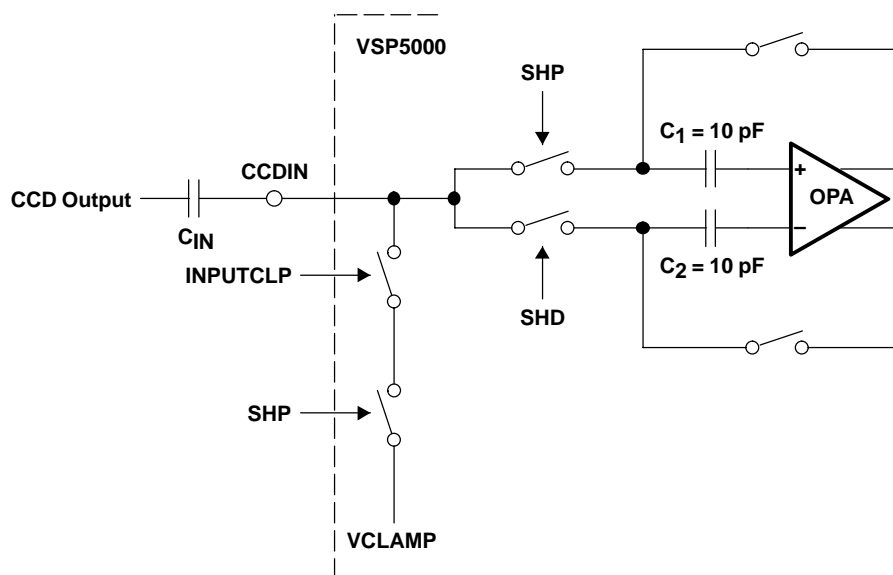
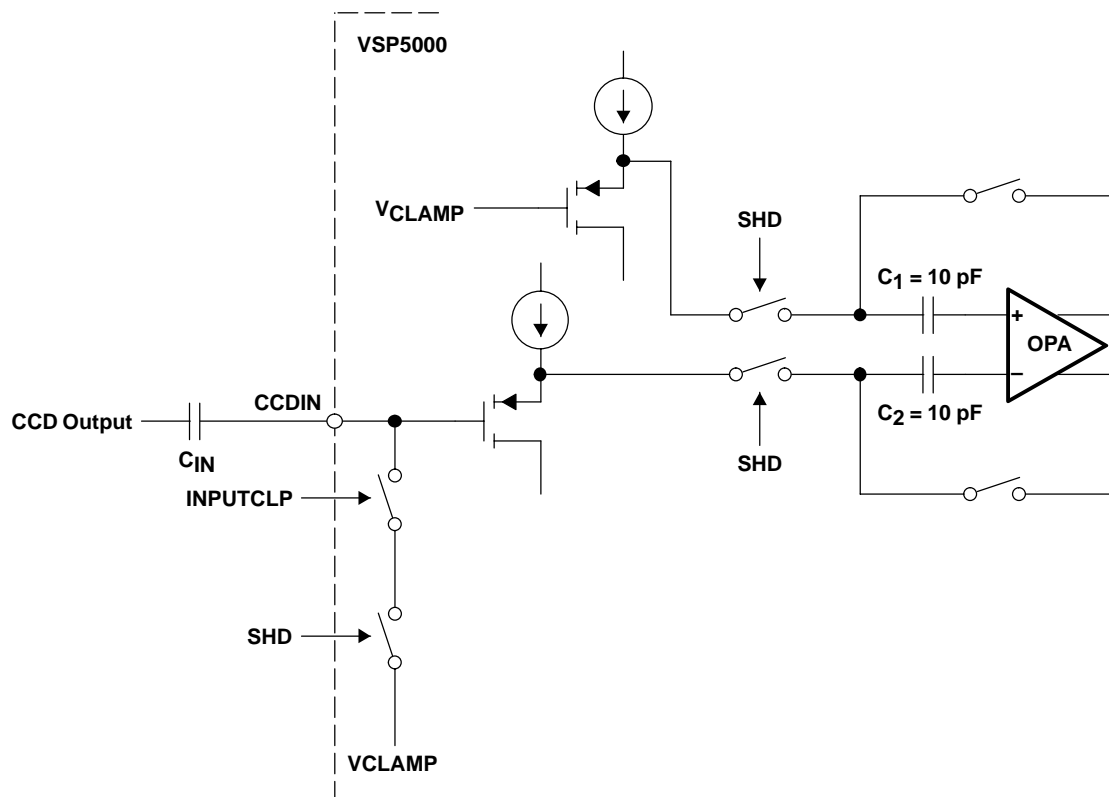

Figure 1. Simplified Block Diagram of CDS and Input Clamp
Figure 2. Simplified Sample Hold (SH) Circuit
The CDS circuit removes low frequency and common-mode noise from the CCD image sensor output as it fluctuates per pixel. Noise longer than one pixel in duration among the input signals is rejected by the subtraction operation at the CDS circuit. Figure 1 shows a simplified CDS block graphic.
The CDS can be configured as a sample hold (SH) circuit by setting terminal 56 (CDS_SEL) low. Figure 2 shows a simplified SH circuit block graphic.
Output from the CCD image sensor is ac-coupled with the VSP5000 device through a capacitor. The input clamp reproduces the dc bias lost by ac-coupling and supplies optimum dc bias for proper operation of the CDS/SH circuit. Simplified block diagrams of the input clamp circuit are shown in Figure 1 and Figure 2.